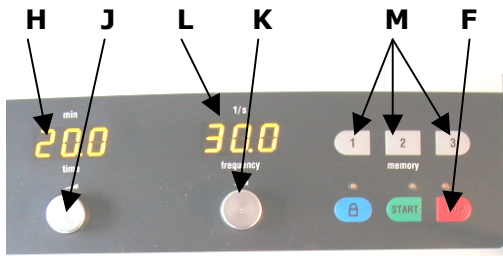

Fig.4
The TissueLyser has three memory buttons **M** with which parameter combinations of time and frequency can be saved to memory. **Fig.4**
- Press the relevant memory button **M**, **Fig. 4**, briefly. The programmed parameters will be shown on displays **H** and **L**.